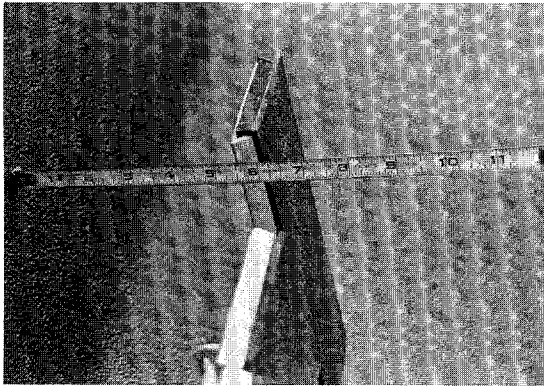

Figure 13-10
5. Brake pawl must fully engage notches in brake latch without pushing brake latch rearward when park brake is applied. To insure proper pawl engagement, measure distance from floor board to top of accelerator pedal before engaging park brake. (Figure 13-10).